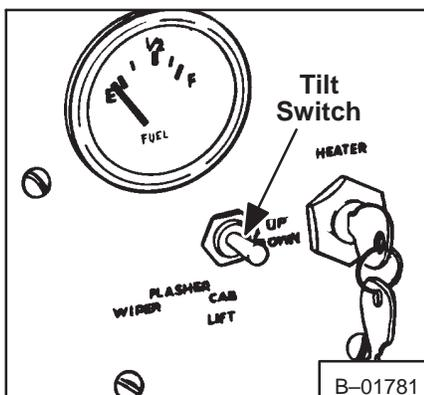
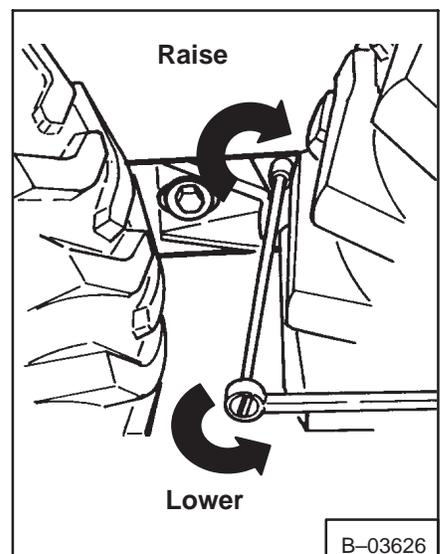
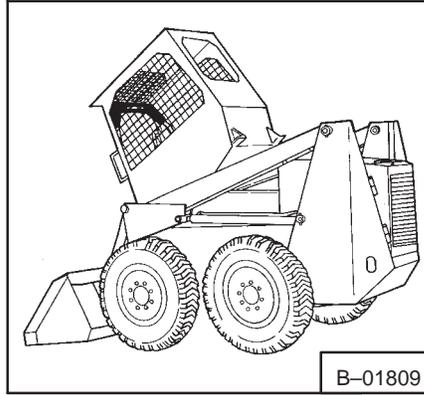

Fig. 1-8 Cab Tilt Switch
Fig. 1-8a Lifting The Operator Guard
Fig. 1-9 Tilting The ROPS
2. Move the *Cab Tilt* switch (Fig. 1-8) up to tilt the ROPS forward (Fig. 1-9).
5. The hex bolt for the mechanical tilt is located on the right side of the loader between the wheels (Fig. 1-8A). Use a ratchet and socket (Fig. 1-8a) and tilt the operator guard into the full forward position (Fig. 1-9).